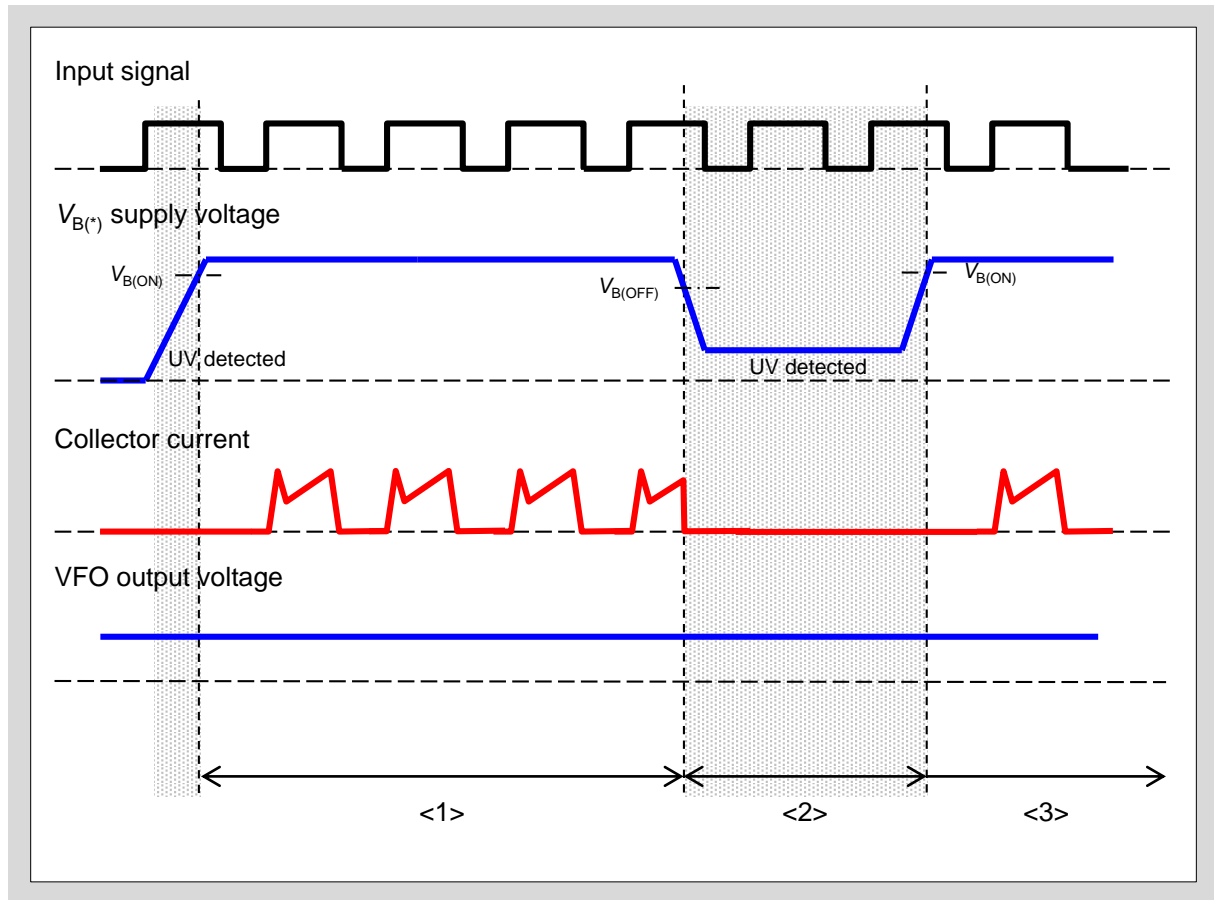

Fig.3-5 Operation sequence of $V_{B(*)}$ Under voltage protection (High-side)
- Fig.3-5 shows the operation sequence of $V_{B(*)}$ UV protection.